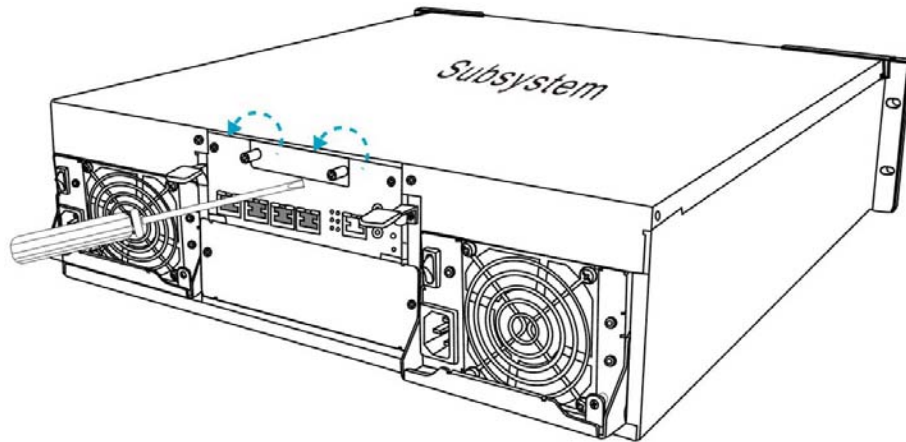

Figure 5-5: Remove the Retention Screws from BBU Faceplate
Step 1. **Remove the faulty BBU from the chassis.** The BBU module is secured to the chassis with two (2) screws. Loosen the retention screws located at the sides of the BBU faceplate, then pull out the BBU. (See *Figure 5-5*)